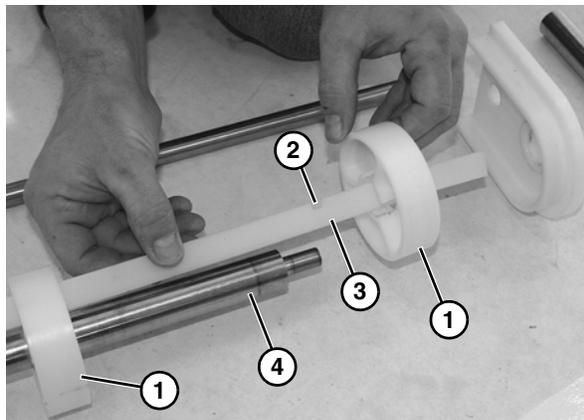

Figure 64
1. Place the pucks (Figure 64, item 1) into the slots (Figure 64, item 2) of alignment bar (Figure 64, item 3), and install onto the idler shaft (Figure 64, item 4).